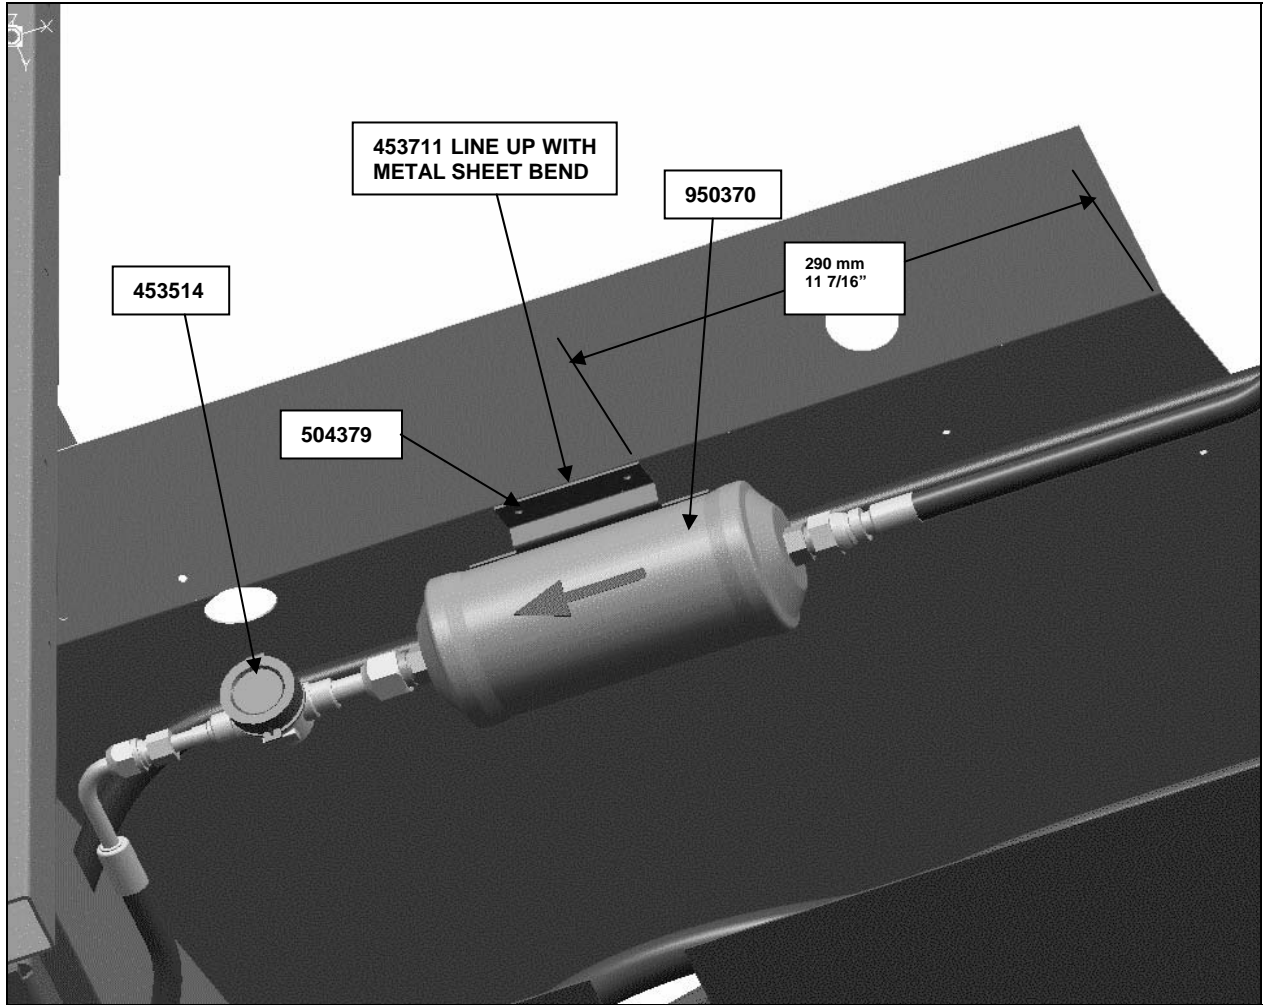

FIGURE 16
7. Line up filter dryer support (453711) with metal sheet bend and mark mounting holes (refer to figure 16). Drill four mounting holes for the rivets (504379) then secure support. Install filter dryer (950370) and refrigerant moisture indicator (453514).